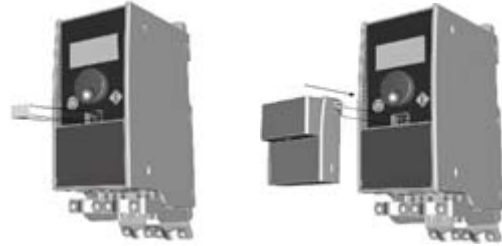

Fig. 3. Remove rubber plug and connect HVFDCDMCA to the VFD
2. Remove the rubber plug covering the connector port of the VFD, see Figure 3.
3. Connect the HVFDCDMCA to the VFD, see Figure 3.